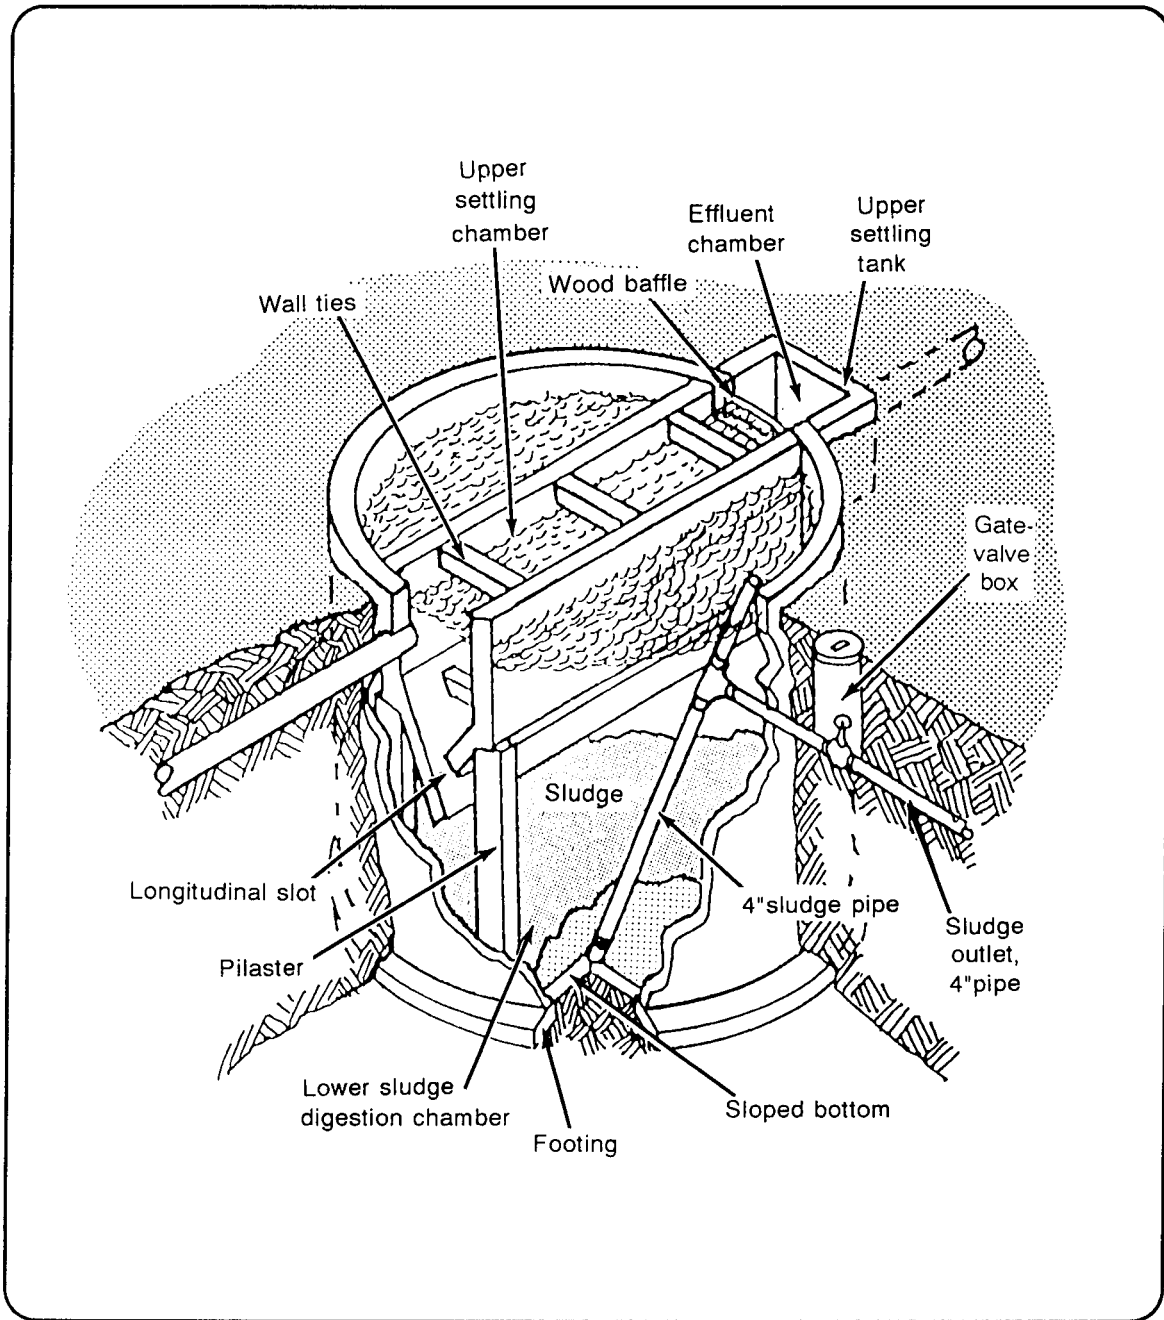

Figure 1-10. Cross sections of an Imhoff tank
c. *Imhoff Tank.* If a septic tank cannot handle the load, an Imhoff tank may be used. Figure 1-10 (page 1-22) shows typical construction details. When a treatment plant is required, plans for a specific site should be prepared, taking into account soil conditions and features of the land surface. (The Imhoff tank is described in FM 5-163.)